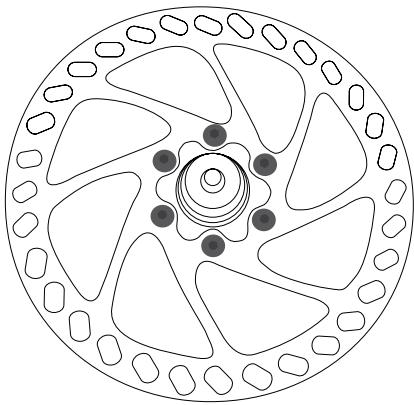
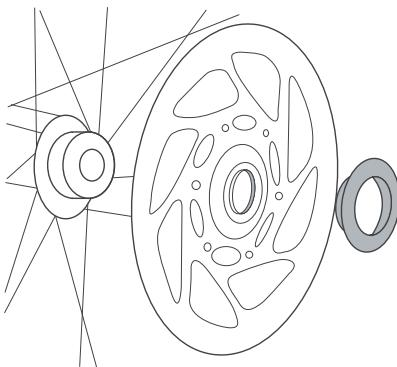

Figure 3. Rotor bolts
Figure 4. Centerlock nut
For wheels with disc brakes, make sure the brake rotor attachment (Figure 3 or Figure 4) is tight:
- Tighten rotor bolts (Figure 3) to 45-55 Lb•in (5-6.2 Nm).
- Tighten a Centerlock nut (Figure 4) to 350 Lb•in (40.2 Nm).